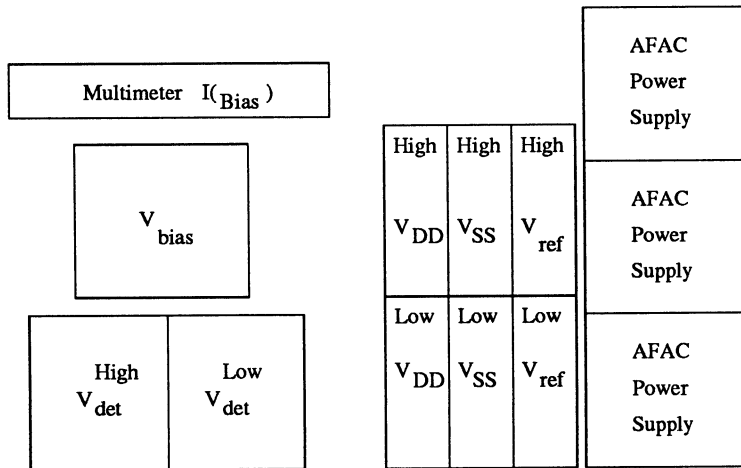

Figure 8: Sketch of the power supply locations found in the test lab.
The physical layout of the voltages is shown in Figure 8. (This section applies for the test stand only.) The bank of voltage supplies on the far right is used to power the AFAC crate. Immediately to the left of these are two banks. The lower bank of supplies are  $V_{DD}^{low}$ ,  $V_{SS}^{low}$ , and  $V_{ref}^{low}$ , corresponding to voltages for the p side. The supply on top provides  $V_{DD}^{high}$ ,  $V_{SS}^{high}$ , and  $V_{ref}^{high}$ , corresponding to voltages for the z side. Left of these two supplies are those for  $V_{bias}$  and below it, that for  $V_{det}^{high}$  and  $V_{det}^{low}$ . Note that there is also a multimeter on top of these supplies. This measures the detector current and is
2. Check that there is no detector plugged into the yellow cable. Then turn on the power supplies for the module operation. These are shown in Fig. 8. The voltages should be left at zero. This procedure of turning on the power supplies to zero volts with the detector unplugged ensures that no harmful transient pulses reach the module when the power supplies are switched on.